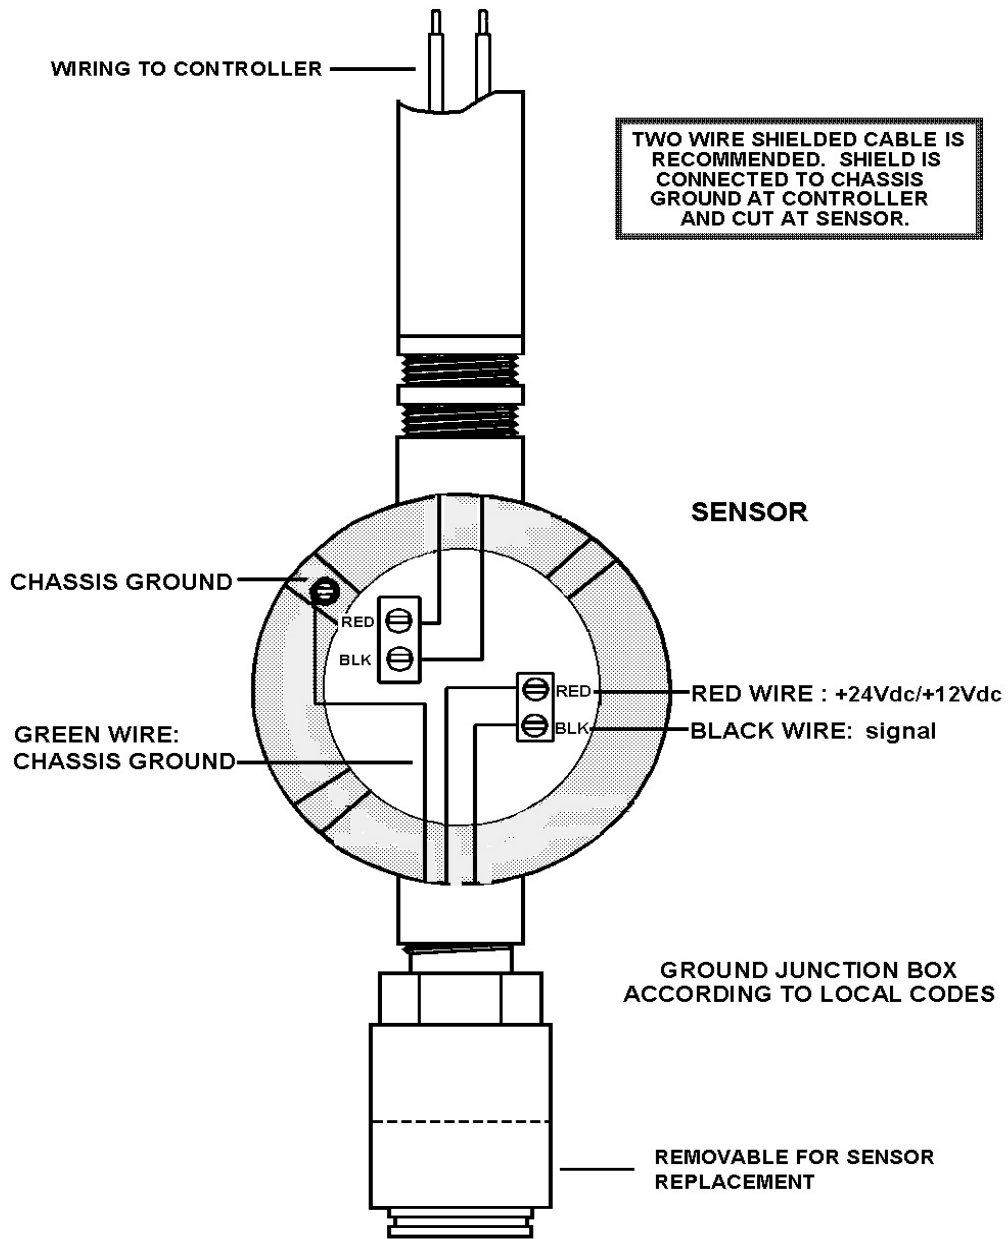

Figure 2 - Sensor Wiring
8. Connect the sensor wires to the sensor terminals inside the junction box. Connect the controller wiring to the controller wiring terminal block. Refer to *Figure 2* on the next page. **Connect the shield to earth ground at the controller end only.** Under normal conditions, the other end of the shield should not be connected at the sensor junction box unless such a connection is required by local wiring codes.